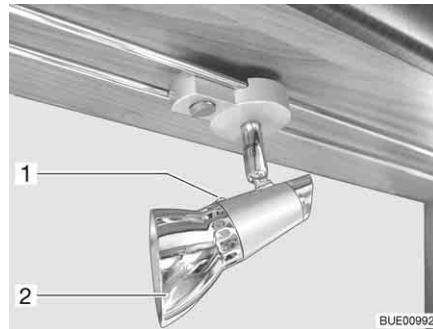

Fig. 247 Halogen spotlight (movable)
- Loosen the fixing screw (Fig. 247,1).
- Remove the lamp shade (Fig. 247,2).